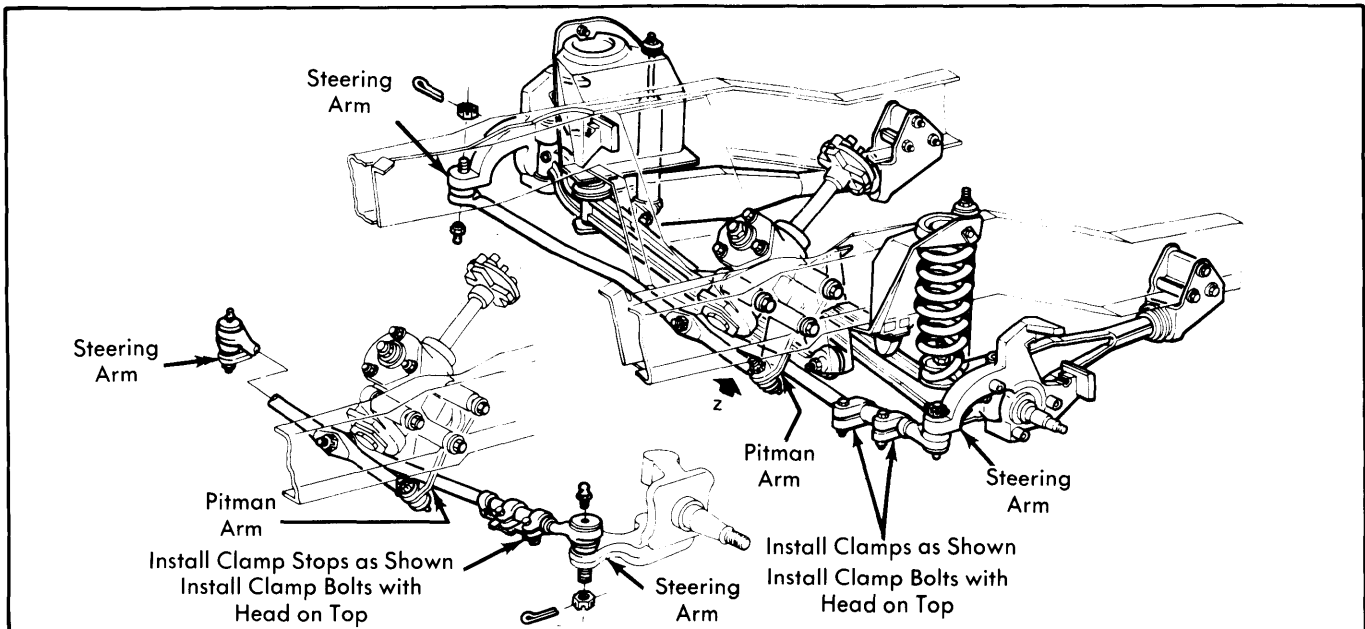

Fig. 2 Steering Linkage All Models
4) Lubricate threads of new connecting rods. Screw into adjusting sleeve approximately same distance as old connecting rods. Make sure of correct position of adjusting sleeve clamps. See Fig. 2.